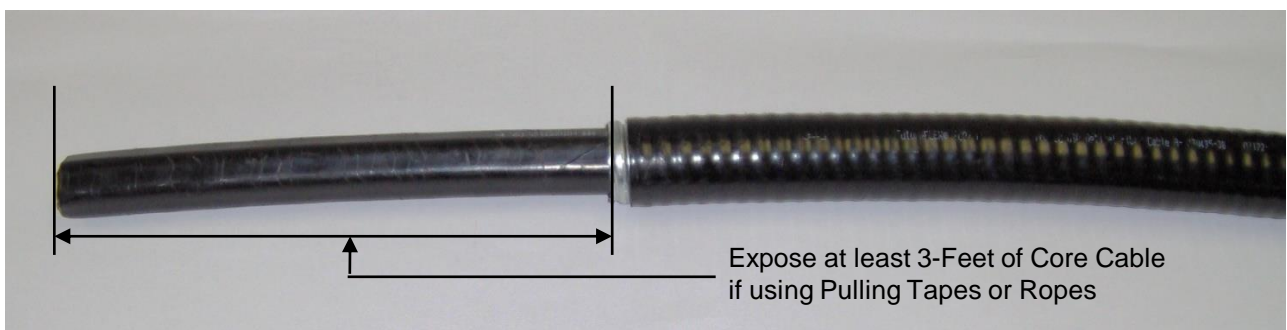

Figure 12
7.5 Unravel the Interlock Galvanized Steel wrap back to where the Polyethylene outer jacket was removed. Bend the steel wrap back and forth until it breaks and remove it from around the core cable. These steps expose approximately 3-feet of the core cable beyond the armor. **See Fig. 12.**